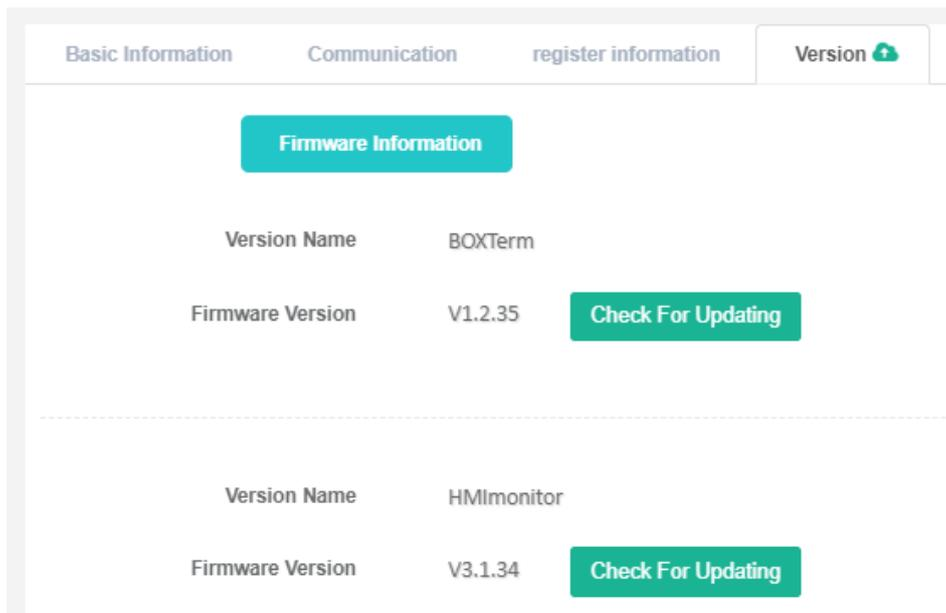

Figure 4-10
Users can check the firmware version of V-BOX and update firmware in "Configuration"->"Version" as shown in Figure 4-10.
- 2) Click "Configuration" ->"Version", it will display the firmware version as shown in Figure 4-10;